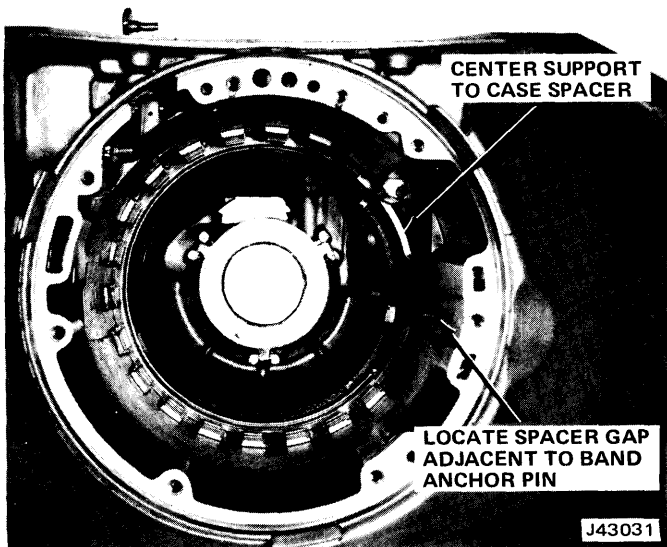

Fig. 7-130 Installing Center Support Spacer
(6) Install rear band in case so that two band lugs index with two anchor pins. Be sure band is seated on lugs.
(7) Install support-to-case spacer against shoulder at bottom of case splines so that end gap of snap ring is adjacent to band anchor pin (fig. 7-130).
(8) Install proper rear unit selective washer (proper washer determined by previous end play check) into corresponding slots in rear of transmission case.
(9) Install center support and gear unit in case. Be sure center support bolt hole is properly aligned with hole in case. Use Tool Kit J-21795 to install assembly.